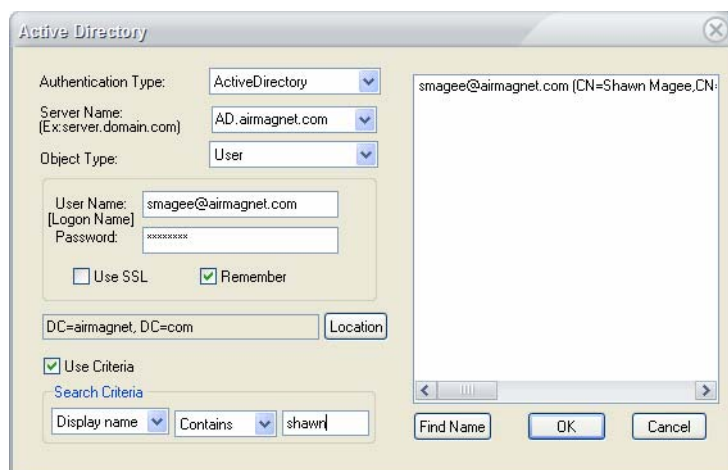

Figure 4-35: Account Located
- 9) Click **Find Name**. The user list on the right displays the accounts detected that match the specified criteria. See Figure 4-35.